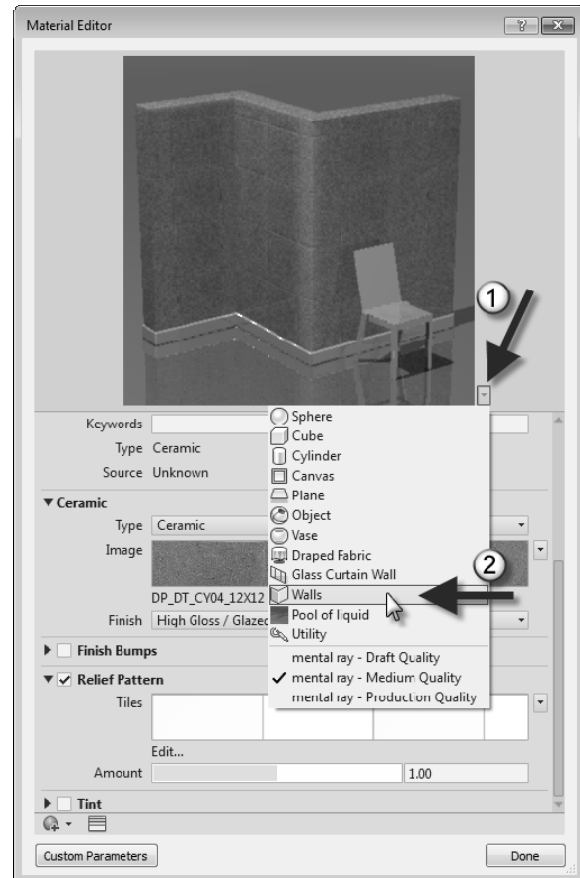

FIGURE 4-4.19 Changing preview image
77. Click the down-arrow next to the *Material Editor* and select **Walls** (Figure 4-4.19).